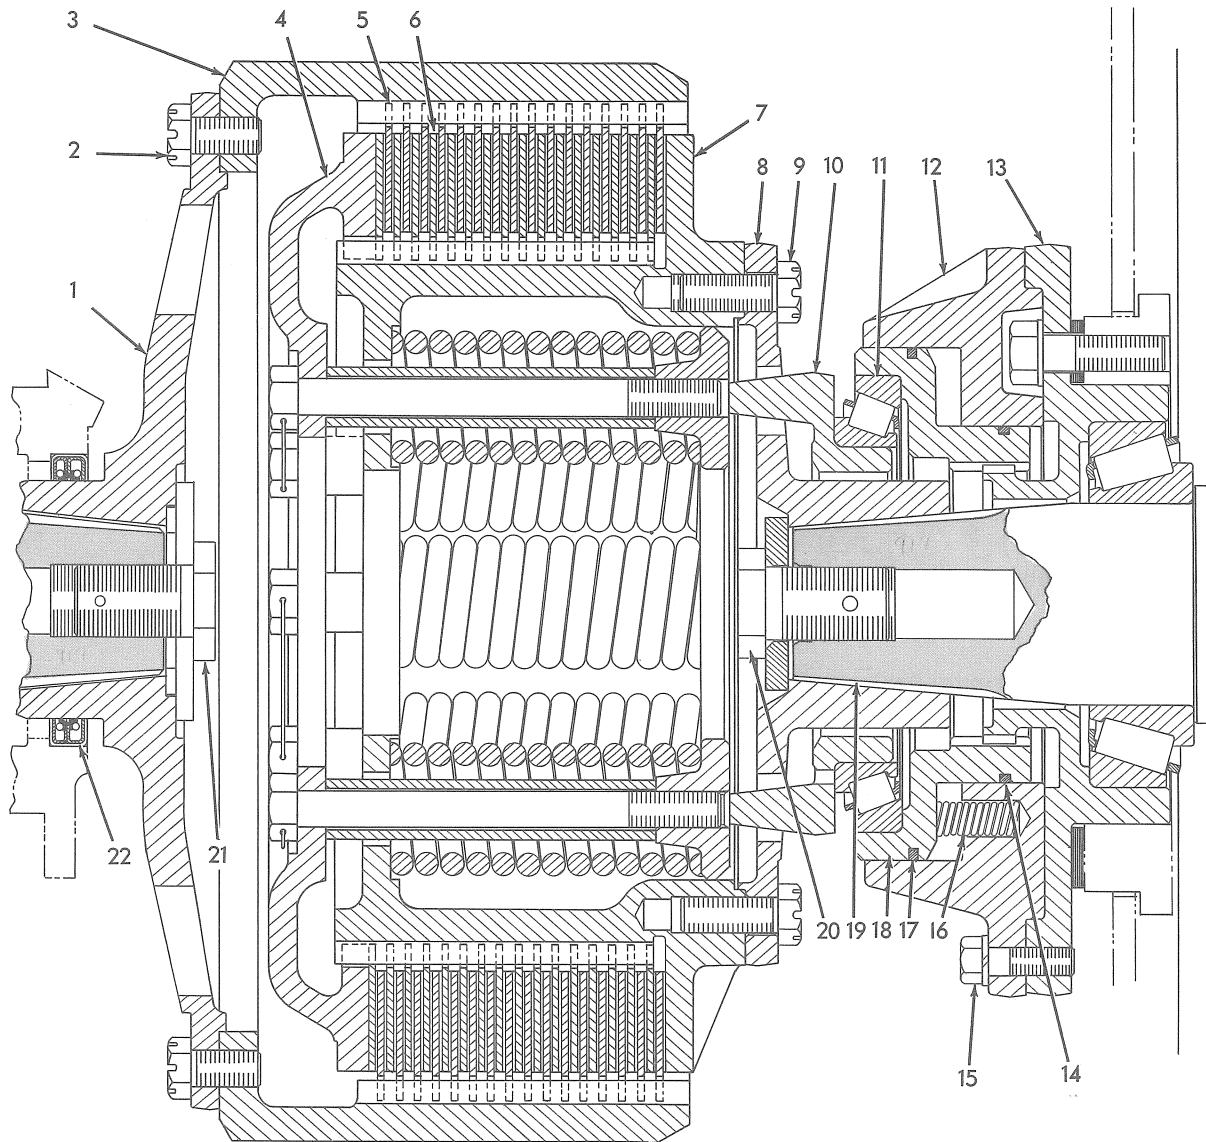
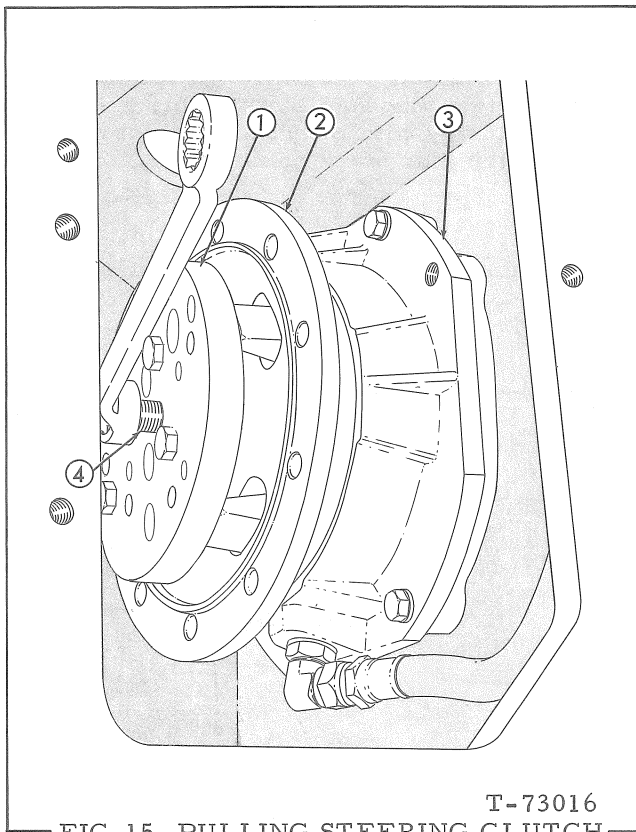

FIG. 12 STEERING CLUTCH INSTALLED
FIG. 15 PULLING STEERING CLUTCH DRIVING HUB
Remove place bolts attaching steering clutch assembly to steering clutch driving hub and brake drum to brake drum hub Fig. 12; leave one each of the bolts installed at top.
lift steering clutch and brake drum assembly gently to take weight off of remaining two bolts. Remove bolts, pry throwout sleeve, Fig. 12 (10) away from steering clutch, and lift steering clutch out of main housing. Slide brake band assembly from drum.
Turn clutch driving hub capscrew, Fig. 12, (20) out three turns; use tools shown in Fig. 15 to pull clutch driving hub. Remove puller tools, hub retaining capscrew, and hub retaining washer. Remove clutch driving hub, throwout sleeve, and bearing cone as an assembly.
Disconnect oil line from collector ring and remove capscrews attaching collector ring to bevel gear shaft bearing cage, Fig. 12. Remove collector ring and actuating piston as an assembly; remove actuating piston and spring from collector ring.
If actuating piston sealing rings, Fig. 12 (14)(17) are replaced, do not destroy old rings by burning. Fumes from burning rings are toxic when inhaled.